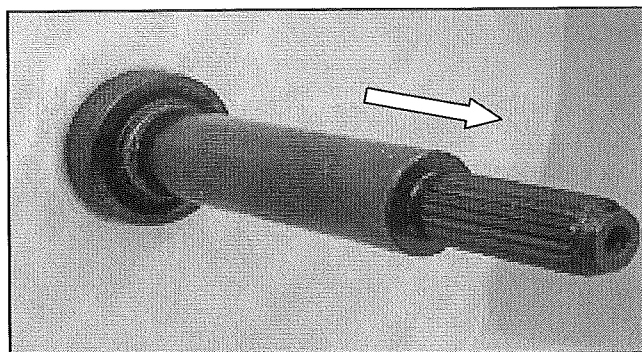

FIGURE 8
12. Tip washer forward off the hoses and remove drive shaft and seal from tub. See *Figure 8*.